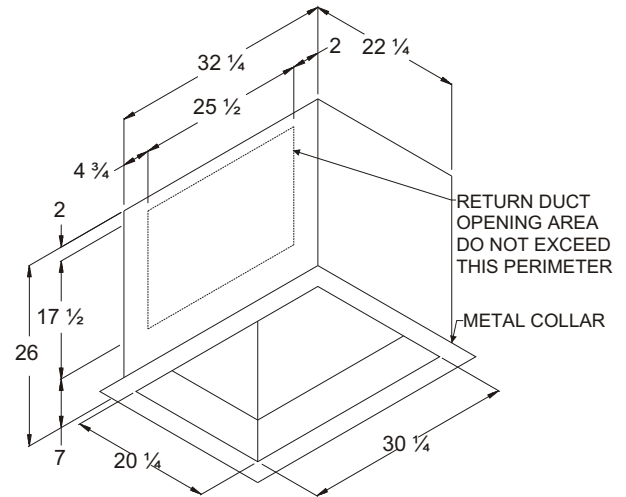

Figure 4
Step 1- Install the framing for the fiberglass duct board plenum as shown in Figure 4. The hole for plenum must be $22\frac{1}{2} \times 32\frac{1}{2}$.